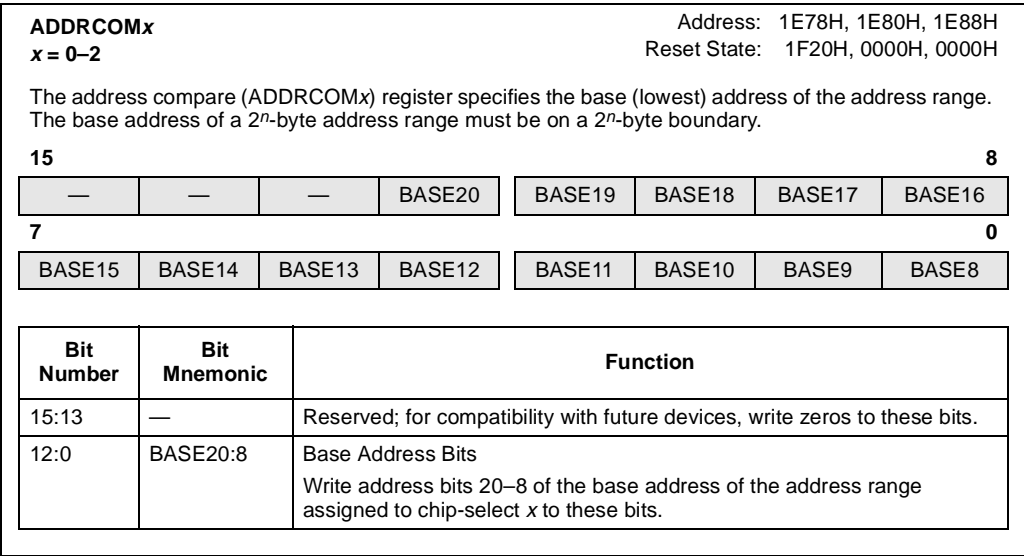
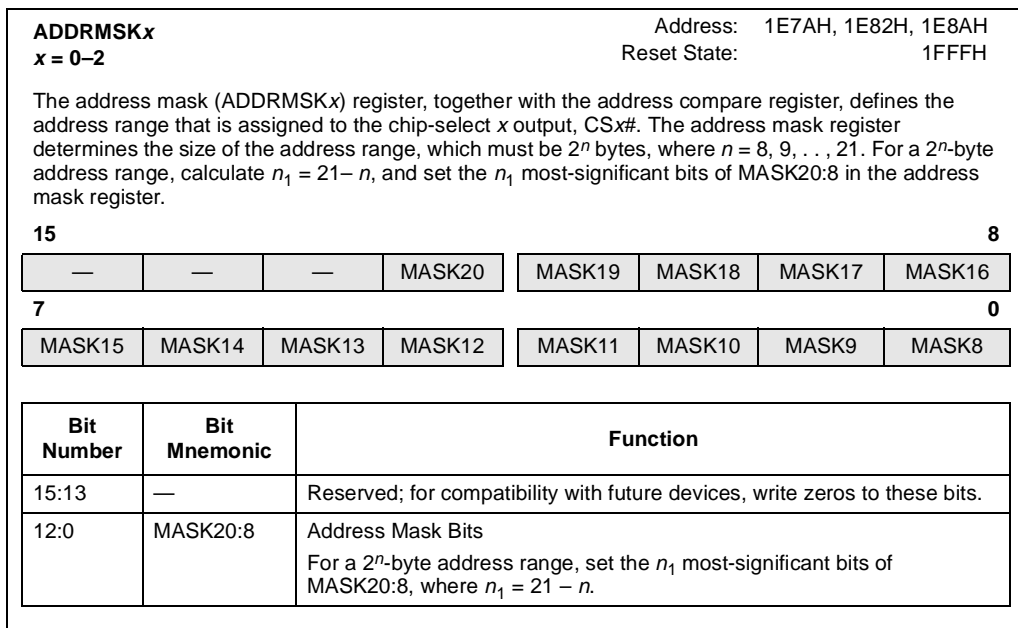

Figure 15-2. Address Compare (ADDR_{COMx}) Registers
Figure 15-3. Address Mask (ADDRMSK_x) Registers
This section describes the ADDR_{COMx} and ADDR_{MSKx} registers and how to set them up for a desired address range. The ADDR_{COMx} register (Figure 15-2) and ADDR_{MSKx} register (Figure 15-3) control the assertion of each chip-select output. The BASE_{20:8} bits in the ADDR_{COMx} register determine the base address of the address range. The MASK_{20:8} bits in the ADDR_{MSKx} register determine the size of the address range.
- Place address bits 20–8 of the base address into bits BASE_{20:8} in the ADDR_{COMx} register (Figure 15-2).
- For an address range of 2^{*n*} bytes, set the *n*₁ most-significant bits of MASK_{20:8} in the ADDR_{MSKx} register (Figure 15-3), where *n*₁ = 21 – *n*.
The location and size of an address range are specified by the ADDR COM_x register (Figure 15-2 on page 15-10) and the ADDR MSK_x register (Figure 15-3 on page 15-7). The 8-Kbyte SRAM is assigned to address range 17E000–17FFFFH and uses chip-select output 2. Address bits 20–8 of the base address (17E000H) are written to the BASE20:8 bits in the ADDR COM_2 register, which then contains 17E0H.